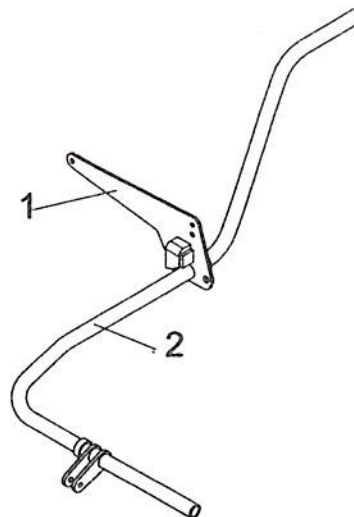

Figure 3
- f) Assemble the right support (fig. 3, item 1) by sliding it onto the lift arm (item 2) with the side which has the welded stopper in first. You may have to twist the support on the arm to facilitate the insertion.